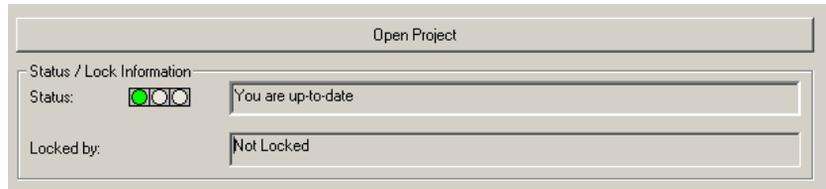

Figure 171. FF Management Aspect
2. Click **Open Project** in the selected **FF Management** aspect or via **context menu** (refer to Figure 171).